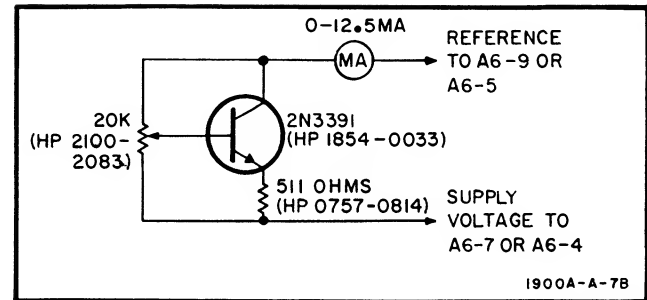

Figure 5-2. Reference Current Source
f. Connect Reference Current Source, figure 5-2, between pin 7 and pin 9 of 15-pin connector.
f. Connect Reference Current Source, figure 5-2, between pin 4 and pin 5 of 15-pin Connector.